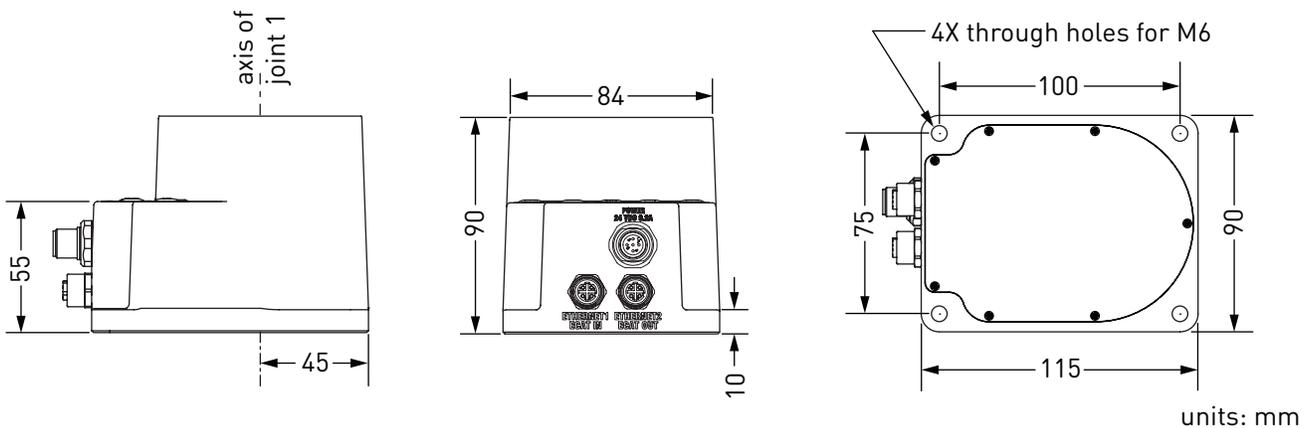
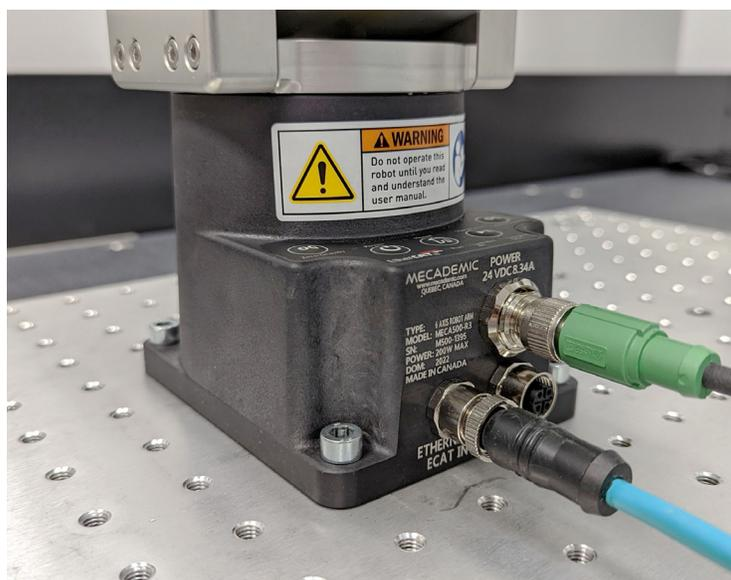

Figure 7: Dimensions of the robot base
Figure 8: The robot base installed, with the connectors attached
The dimensions of the base are shown in Figure 7 and an example of installation is shown in Figure 8. Note that you can install the robot base in any orientation. The robot will automatically detect the angle between the axis of joint 1 and the gravity vector (no need to manually specify this angle). Also, note that you can mount the robot's base on a mobile body (e.g., on the carriage of a linear guide), but only if you do not intend to move the robot's joints, while the robot's base is moving with respect to the ground.
1. Attach the circular connector of the Ethernet cable to the ETHERNET1 port on the robot's base and connect the RJ-45 jack to your computer or router (Figure 8). The two Ethernet ports on the robot's base act as a bridge, so you can daisy-chain several Meca500 robots, or connect an Ethernet I/O module on the ETHERNET2 port.
2. Use the DC power cable provided to connect the unpowered power supply to the robot's DC power connector (Figure 8). Make sure the connectors are completely screwed, or else you may damage the robot. Then, connect the power supply to your country-specific AC power cord (not provided). Only then, can you connect the AC power cord to an AC outlet, and switch the power supply on using its on/off button.